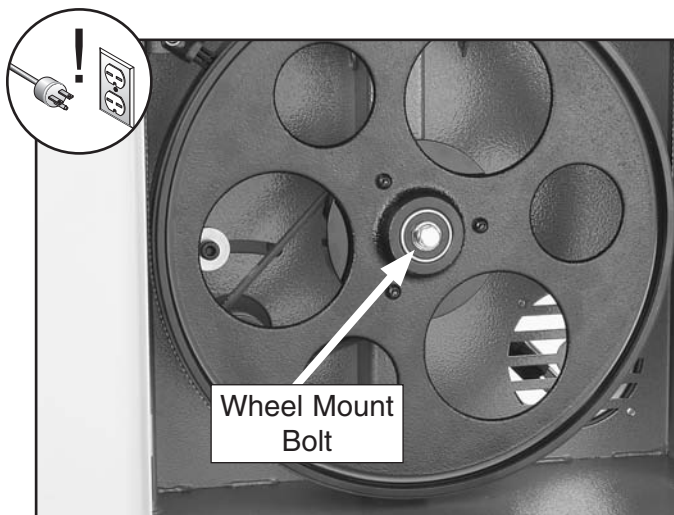

Figure 60. Wheel mount bolt.
4. Unthread the wheel mount bolt shown in **Figure 60** and slide the lower wheel off of the bearing shaft.